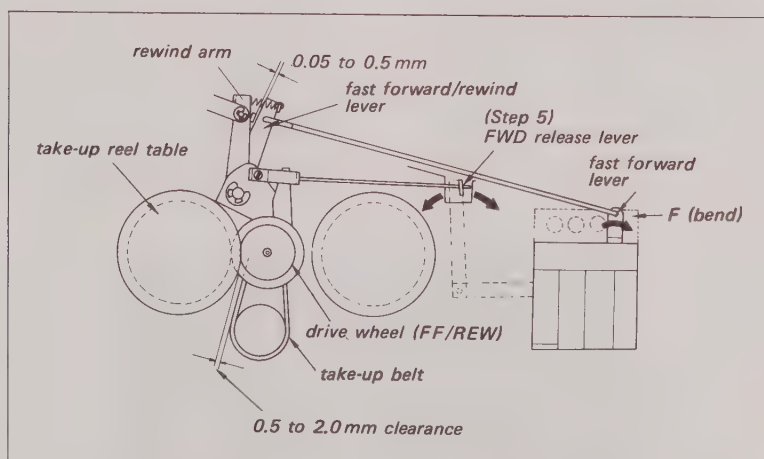

Fig. 5-30. Function button adjustment
2. Check for 0.05 to 0.5 mm clearance between the Fast Forward Arm and the stopper on the Drive Wheel Lever in F. FWD mode. See Fig. 5-30.
5. Check for 0.5 to 2.0 mm clearance between the circular drive belt and the Take-Up Reel Table. To correct this clearance, bend the vertical member of the FWD Release Lever to the left or right. See Fig. 5-30.